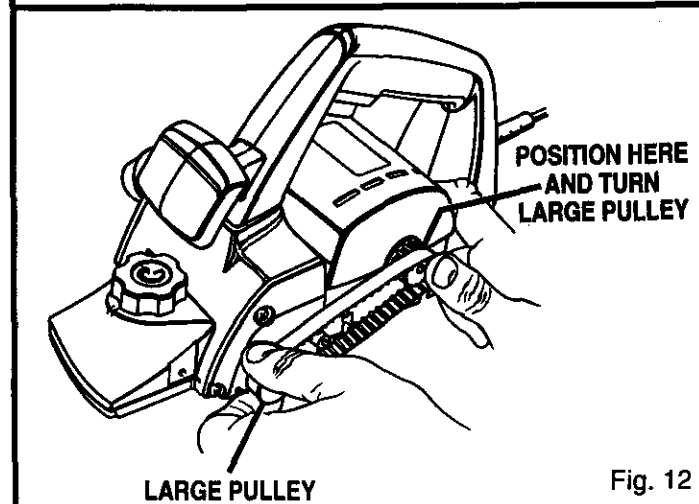

Fig. 12
4. Install new belt over large pulley first. See *Figure 12.*
5. Holding the belt as shown in figure 12, press the belt onto the small pulley. **NOTE: TO SIMPLIFY THE PROCESS, TURN THE LARGE PULLEY AS YOU PRESS THE BELT ONTO THE SMALL PULLEY.**